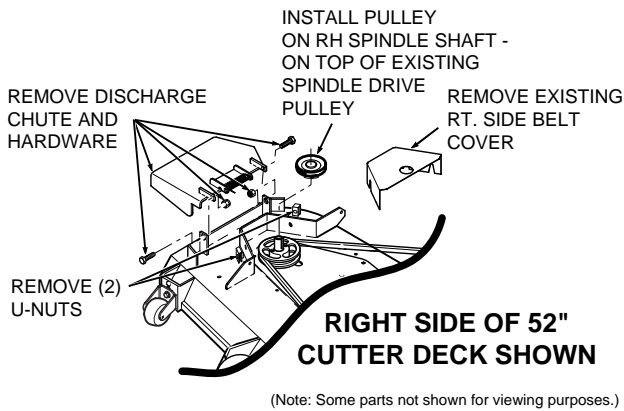

FIGURE 3-1
2. Remove the discharge chute from the cutter deck. See Figure 3-1.
4. Remove the right side belt cover to gain access to the spindle assembly. Remove the u-nuts from the front and rear of the cutter deck bracket. See Figure 3-1.
5. Install the grass catcher pulley onto the spindle assembly. Apply loctite to both pulley setscrews and tighten. See Figure 3-1.